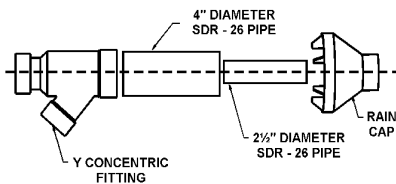

FIGURE 23.
- Cement Y concentric fitting to larger diameter kit pipe, see Figure 23.
- a) Cement the Y concentric fitting to larger diameter kit pipe, see Figure 23.